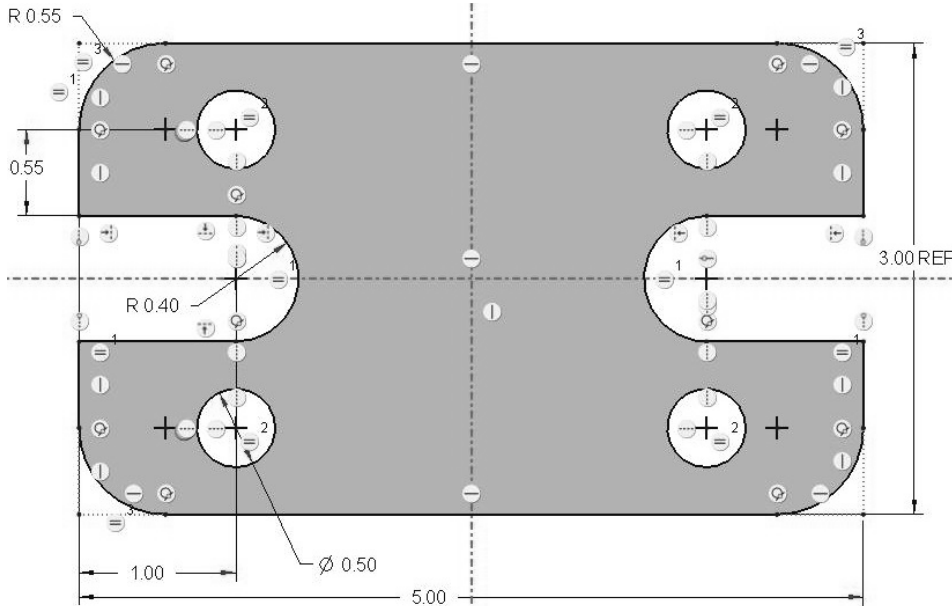

Figure 3-75 Problem 6—Cover Plate
- 3.6** Draw the front view of "cover_plate" (Figure 3-75). Draw the centerlines first. **Design Intent**—The plate is symmetric about its center in both directions. Note that the small holes are aligned with the centers of the two arcs. Why does the 3.00 dimension have the letters REF after it? (>File>Options>Sketcher, change to 2-decimal places before sketching.)